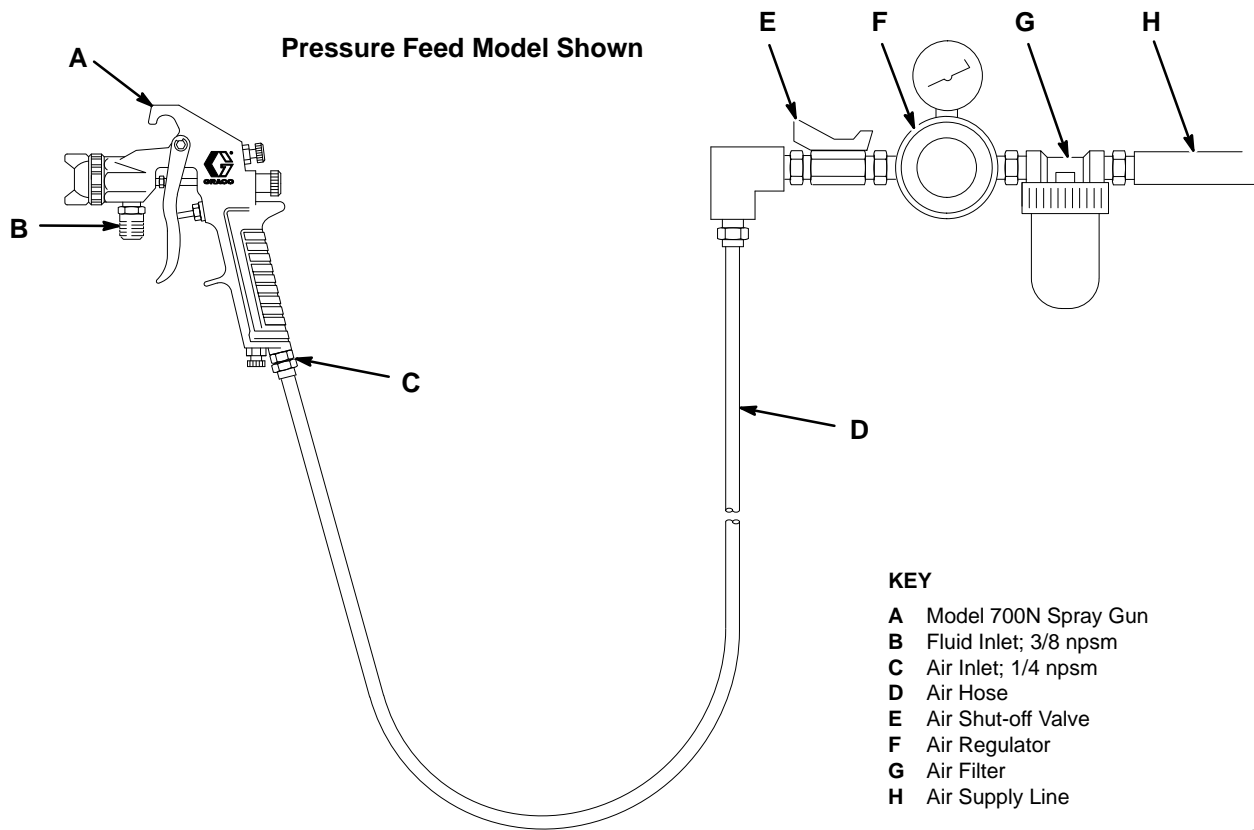

Fig. 1
1. Install an air filter (G) in the gun air supply line to ensure a clean dry air supply to the gun. See Fig. 1. Dirt and moisture in the air line can affect the appearance of your finished workpiece.
2. Install an air regulator (F) downstream from the air filter to control atomizing air pressure to the gun.
3. Install an air shut-off valve (E).
4. Connect the atomizing air hose (D) to the 1/4 npsm air inlet (C) of the gun.